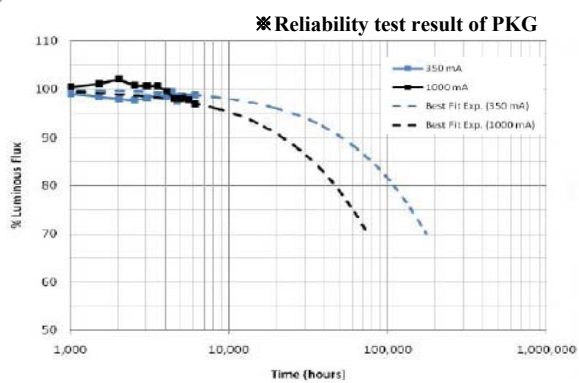
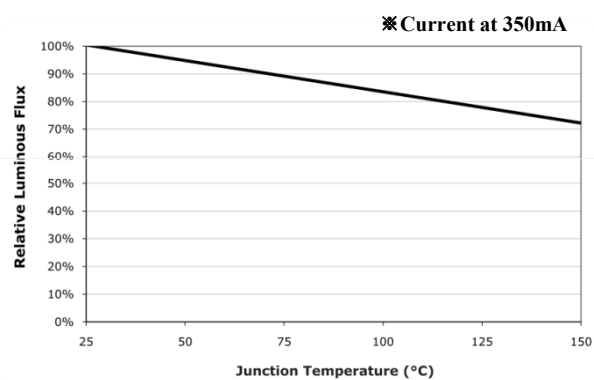

Figure 9. Luminous Flux VS. Time
Figure10. Relative Flux VS. Junction Temp.
To keep the value of CCT of the LED Module in the specified range, the PKG Rank enclosed with red line in the Figure 9 should be mixed as shown in the Table2. Arrangement of the LED PKG on the Metal PCB is recommended as shown Figure 10.
- The lifetime of the LED module cannot be guaranteed if operated without a heat-sink. The heat-sink should be coupled with the module for thermal management as shown in Figure 9.
Case Temperature(T_c) is the temperature at the center point of the module plate remarked in Figure 10. It shows how to measure T_c .
- T_c point can be measured as described in Figure 10.